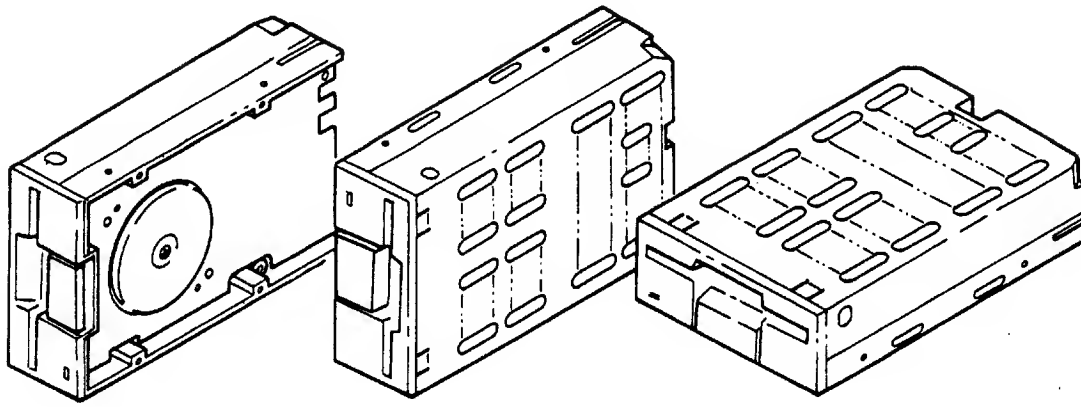

Fig. 6.2 Recommended Mounting
- (1) Refer to Fig. 6.2.
- (2) When mounting the drive in horizontal front-loading position, make sure that the PWB is down.
- (3) If the drive is mounted at a slant, the mounting angle should not exceed 20 degrees.